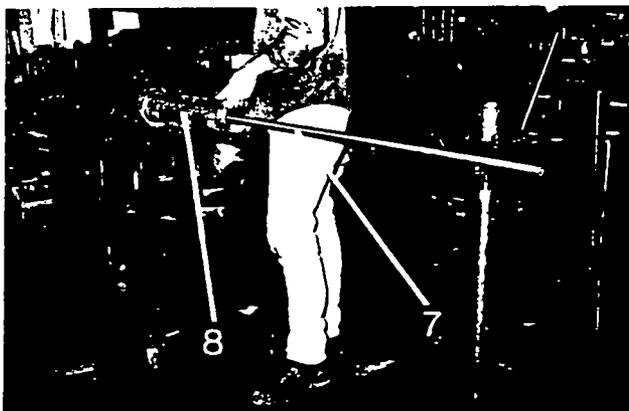

Figure 11
5. With the support plate in a vertical position, insert the shaft-bearing shell assembly into the bearing housing from the motor stand side. Do not damage bearing grease seal (5). Replace bearing shell to housing bolts (5A). Supports should be provided to support both the column pipe and the shaft.
6. Slide the head column over the pump shaft and against the bearing housing. Refer to Figure 11.